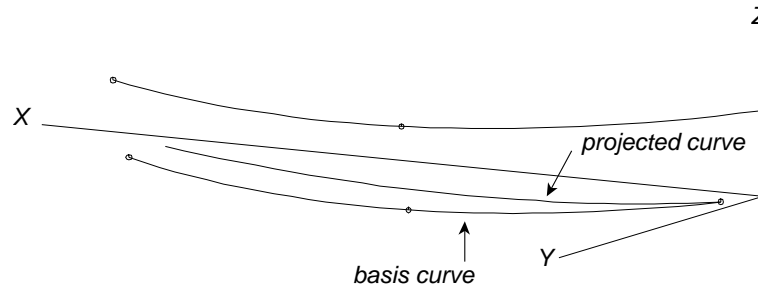

Fig. 6. Rowboat model with the bottom centerline curve (a Projected Curve) added; Home view.
- 5 **Select \*Y=0** from the list by clicking on it. \*Y=0 now appears in the Mirror support box. Change the **Name** to '**bottom ctr**'. Did you notice that MultiSurf automatically placed a '\_' when you typed a space? MultiSurf does not allow spaces in names, but you can type them, and we'll do the rest. In the **Display** tab, make the color bright blue. **Click OK.** (Fig. 6)